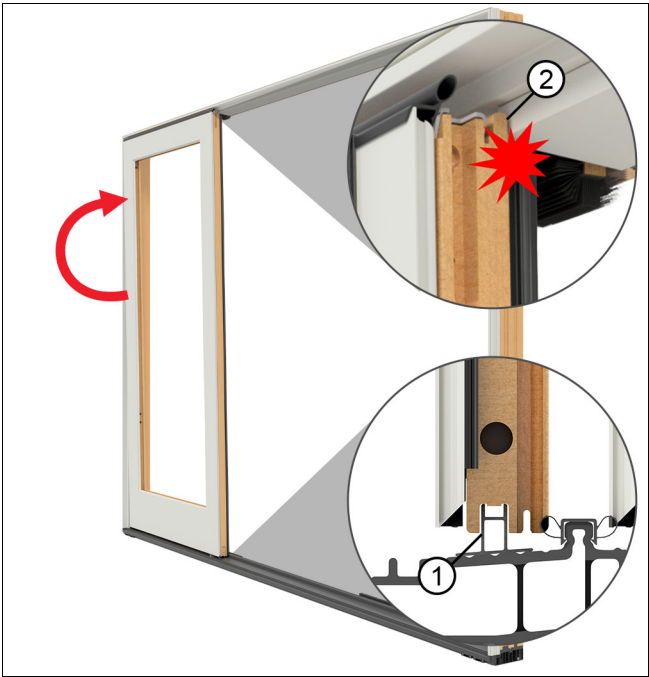
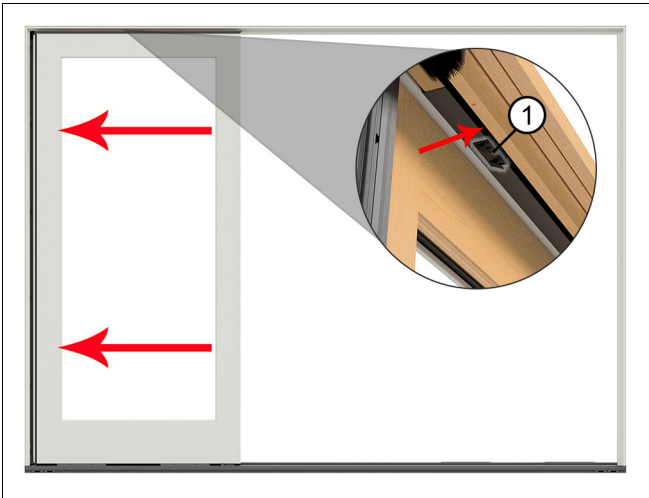

Figure 26
Figure 27
5. Tip the panel in until it hits the aluminum parting stop. See Figure 26 and Figure 27.
6. Slide the panel past the aluminum parting stop to the jamb. Now push the panel in until it contacts the wood parting stop. Clips at the head jamb will hold the panel in place and aid in alignment. See Figure 27.